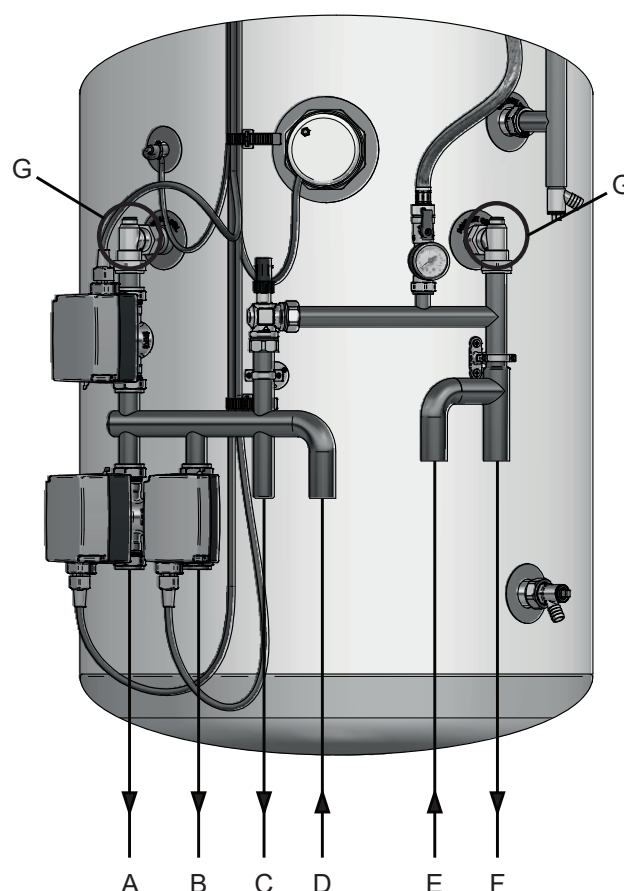

Figure 3-1: Primary circuit connections
Make the primary circuit and heat pump connections to the cylinder as follows (Refer to Figure 3-1):
1. The primary flow and return connections from the heat pump should be made to cylinder connections D and F respectively (refer to Figure 3-1 and Table 3-1).
2. The primary flow to heating zone 1 should be made to cylinder connection A (refer to Figure 3-1 and Table 3-1).
3. The primary flow to heating zone 2 should be made to cylinder connection B (refer to Figure 3-1 and Table 3-1).
4. If required, the primary flow to heating zone 3 should be made to cylinder connection C (refer to Figure 3-1 and Table 3-1).
If a third heating zone is required, the tail of pipe C (see Figure 3-1) will need to be trimmed as it has been soldered shut during production.
**If a third heating zone is to be connected to cylinder connection C (refer to Figure 3-1), the pipe tail should be cut using a pipe slicer or pipe cutter - to leave the pipe ends with a slight radius and free from any burrs or sharp edges.**
5. When filling the primary circuit, the manual air vents situated on the flow and return connections to the indirect coil can be used to vent air from the indirect coil (refer to item G in Figure 3-1).
To prevent gravity circulation when the heat pump switches off, three 2-port motorised valves have been supplied fitted to the cylinder after the primary flow pipe from the ASHP (see item D, Figure 3-1). They should be wired in accordance with Figures 5-2 and 5-3 to ensure that, when used with a Grant AERONA3 Heat Pump, the installation will comply with current legislation.
Table 3-1: Key to Figure 3-1